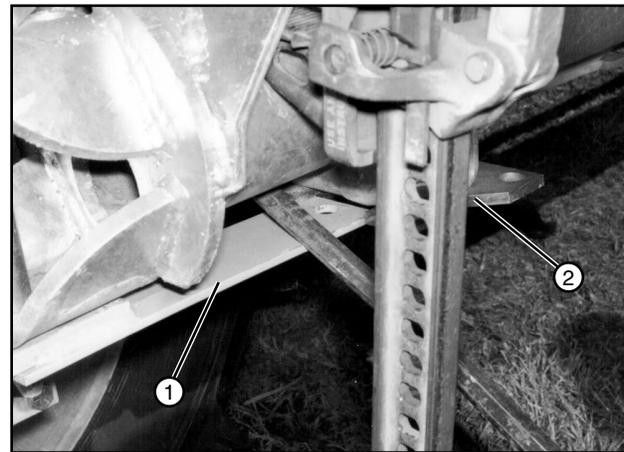

Figure 82-2 1. Steering Arm 2. Latch Plate
6. Using a pry bar, push down on the steering arm to release it from the latch plate. Push the tire toward the tow position until steering arm is out of latch plate. See Figure 82-2.